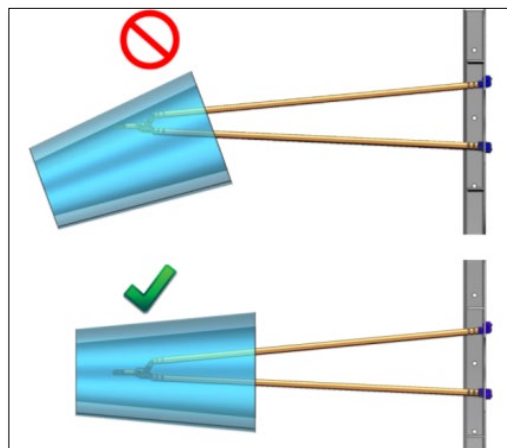

Figure 16: Caution when installing the filter element
- ⇒ **Caution** when installing the filter elements; Damage can result by the front end of the element supports puncturing into the filter element’s liner as shown in Fig. 16